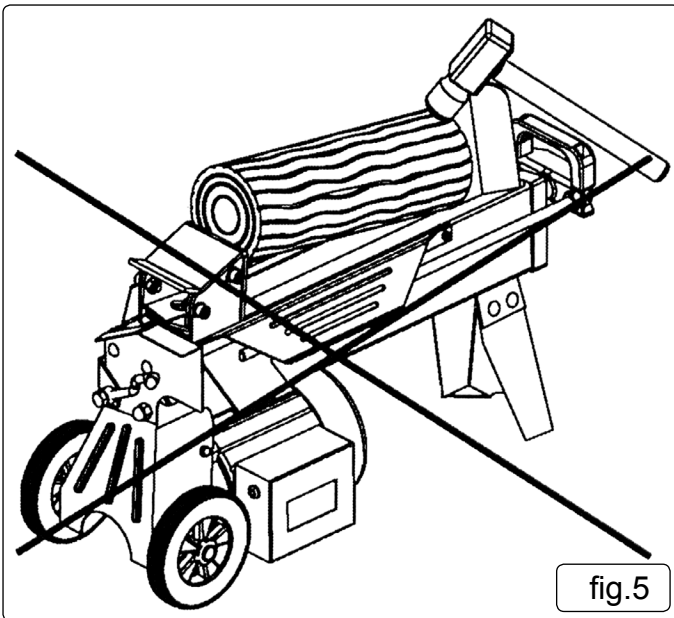

fig.5
- 6.8. **DO NOT** attempt to free a jammed log by striking it with a hammer as this may damage the machine or cause a sudden release of the log which could be dangerous. See fig.5.